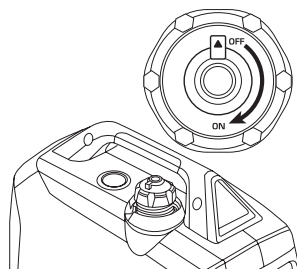

Fig. 2
3. Open the vent on the fuel cap to the “ON” position (fig. 2).